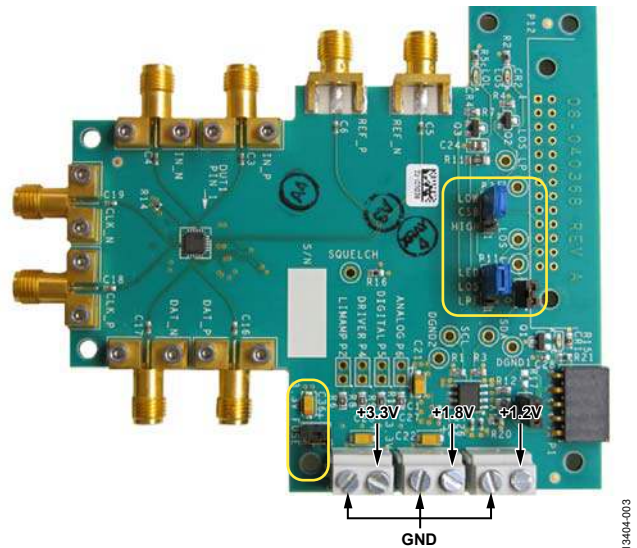

Figure 3. Evaluation Board, Jumper P14, Jumper P10, Jumper P11, Jumper P3 (Marked in Yellow), and Supply Rails
- Connect supply rails (shown in Figure 3) to the evaluation board as follows: